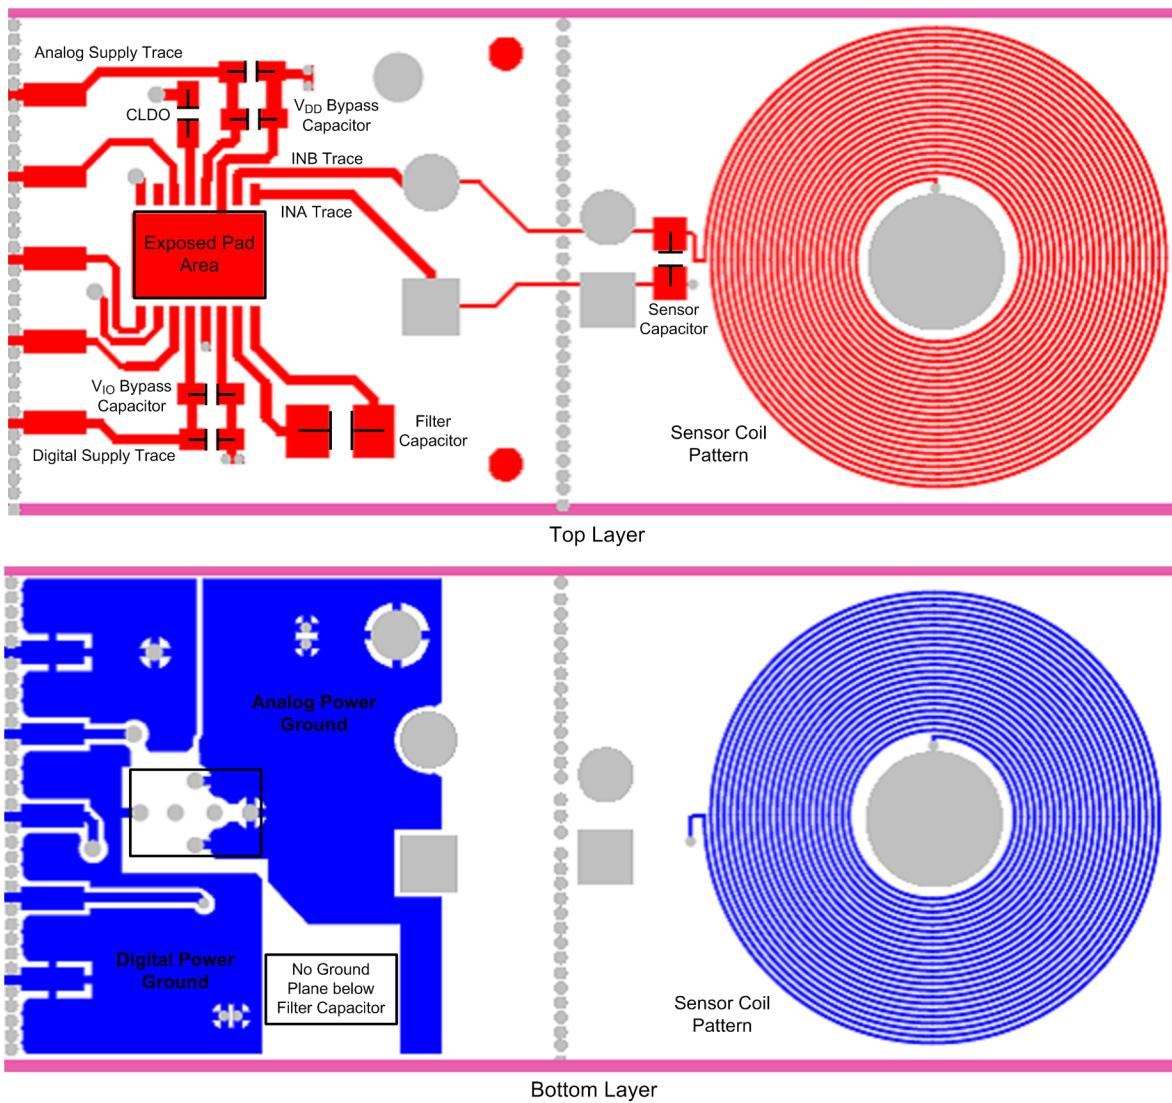

Figure 22. LDC10xx Board Layout
- The optimum placement is closest to the VDD/VIO and GND/DGND terminals of the device. Care should be taken to minimize the loop area formed by the bypass capacitor connection, the VDD/VIO terminal, and the GND/DGND terminal of the IC. See Figure 22 for a PCB layout example.
- Use of two separate ground plane for GND and DGND is recommended with a star connection. See Figure 22 for a PCB layout example.